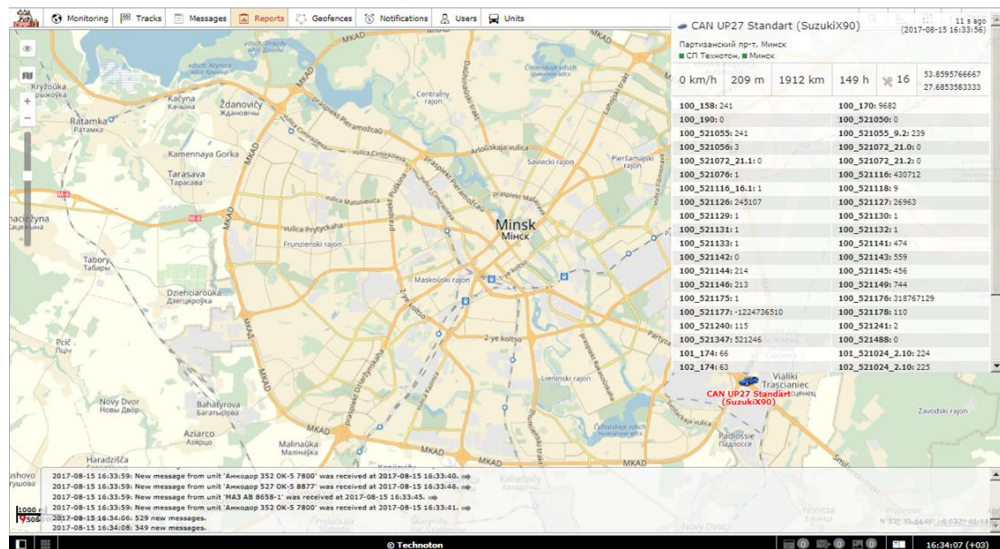

Figure 28 — Example of how the vehicle (with CANUp 27 installed) is displayed in ORF 4 monitoring service
- 2) Make sure that data is transmitted to the Server correctly (see figure 28).